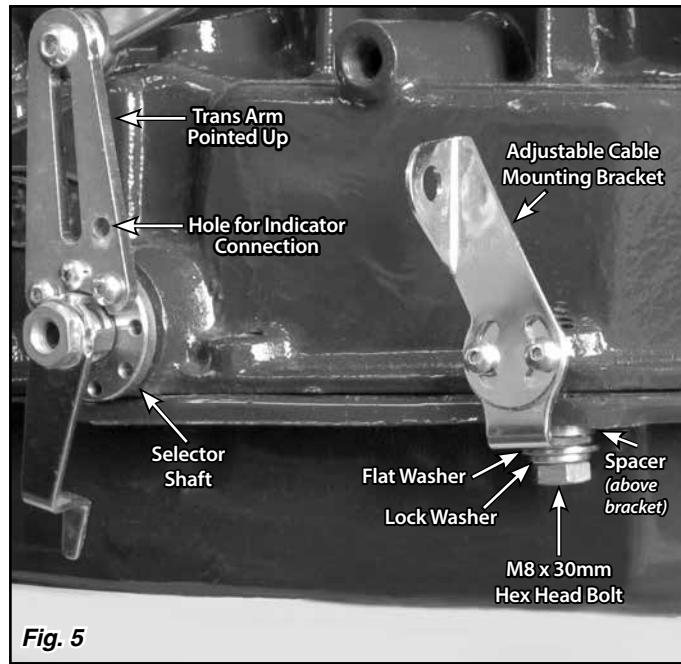
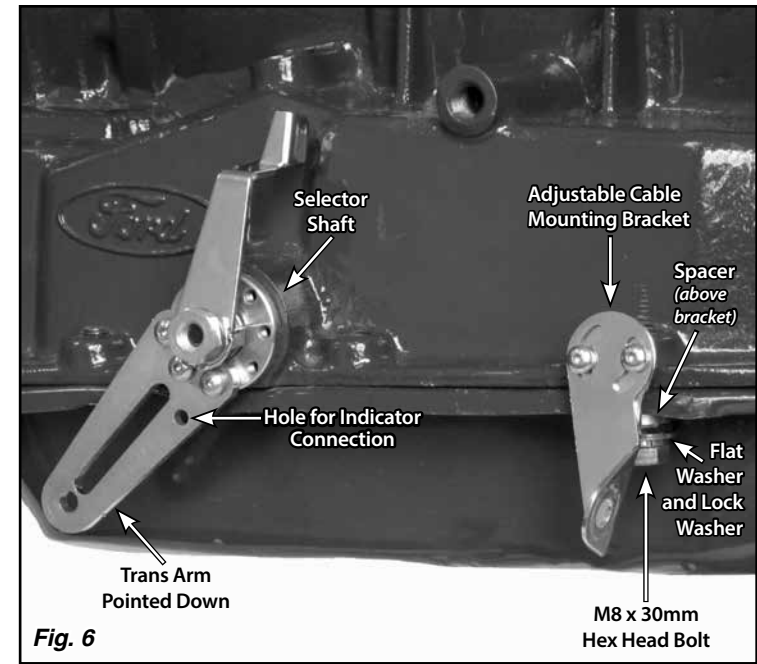

Fig. 5
Fig. 6
**Step 2:** Remove the second pan bolt to the rear of the selector shaft. Install the adjustable cable mounting bracket there using the provided M8 x 30mm hex head bolt, lock washer, flat washer, and spacer. **Fig. 5** and **Fig. 6**
- **With a Lokar selector shaft:** The trans arm has a 3/16" diameter hole in it for the indicator cable to connect to. Make sure that this hole is to the rear of the slot in the trans arm. If it is not, remove the trans arm and re-install it with the 3/16" hole to the rear of the slot in the trans arm. **Fig. 5 and Fig. 6**